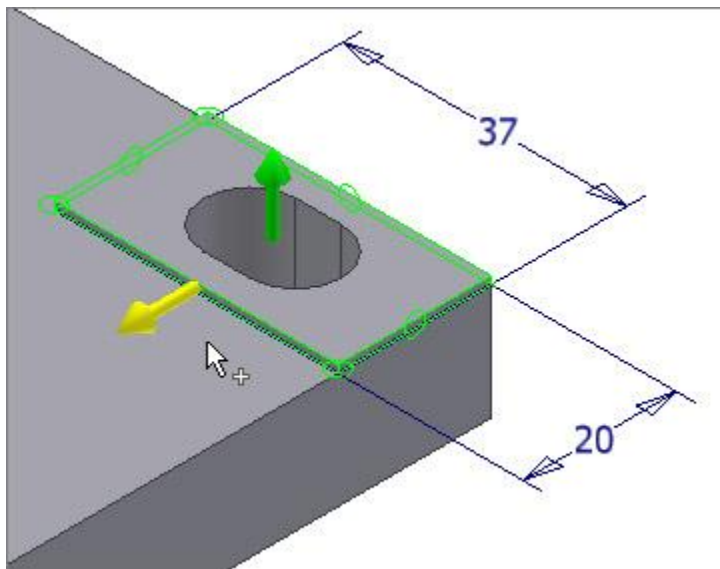

Figure 1. Green and yellow arrows indicate how a feature can be modified.
- Yellow arrows indicate the feature has a parametric dimension you can modify if the face is edited by using 3D Grips tools (figure 1).